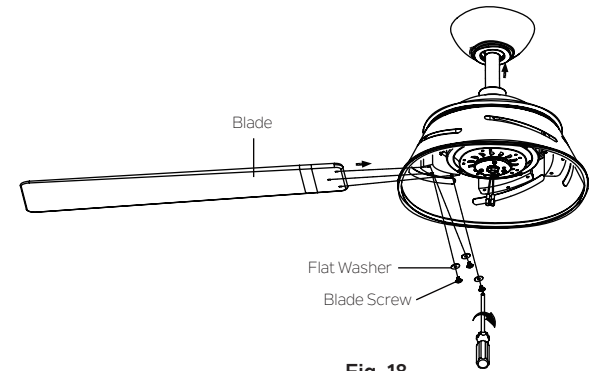

Fig. 18
Step 1. Carefully slide the blade through the slot as shown. Securely fasten the five blades with blade screws and flat washers. (Fig. 18)